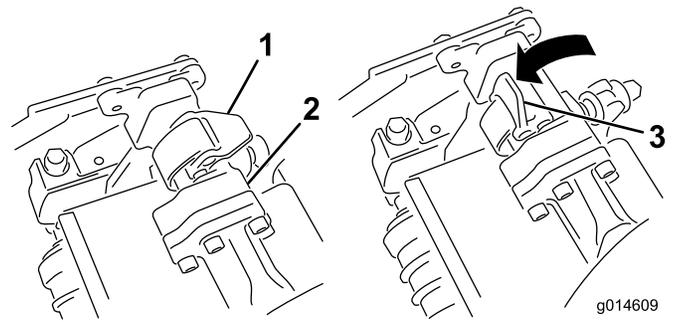
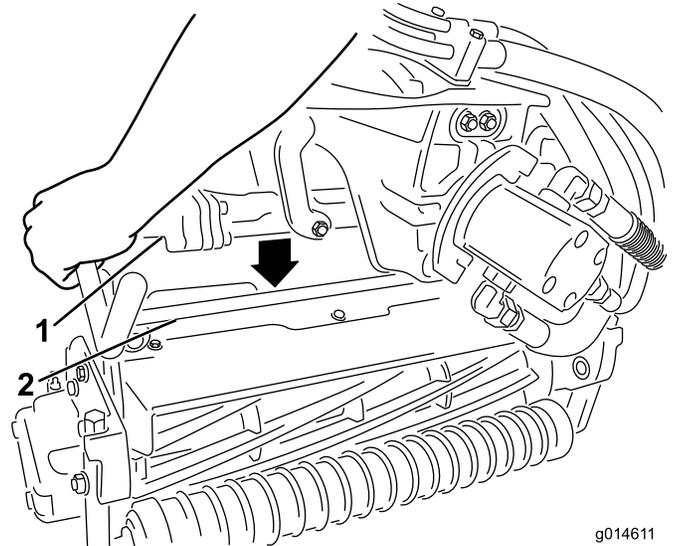

Figure 36
Figure 37
4. With the latches on the suspension-arm bar pointing up (i.e., open) (Figure 36), push the suspension arm down so that the bar fits over the bar across the top of the cutting unit (Figure 37).
5. Close the latches down and around the cutting-unit bar and lock them in place (Figure 36).
5. Open the latches on the suspension-arm bar of the cutting unit you are removing (Figure 36).